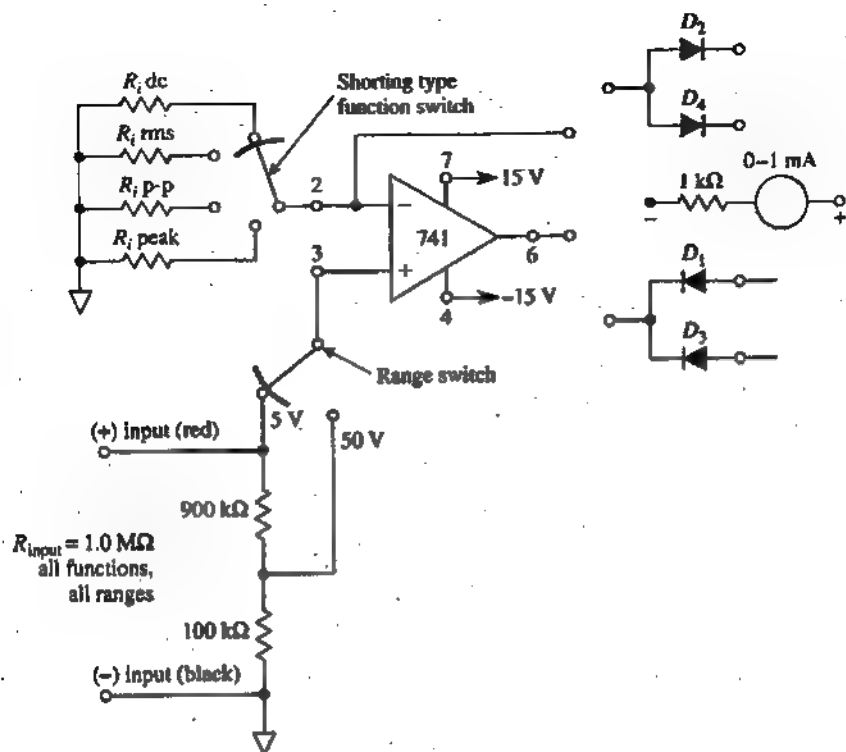

FIGURE PS-3
- 5-3. In Fig. PS-3 complete the schematic wiring between op amp, diodes, and milliammeter. The current through the meter must be steered from right to left.
- 5-4. Calculate a value for R_{idc} in Fig. PS-3 so that the meter reads full scale when $E_i = 5$ V and the range switch is on the 5-V position.
- 5-5. Consider that the range switch is in the 5-V position in Fig. PS-3. Calculate values for the following resistors to give a full-scale meter deflection of 5 V: (a) R_{irms} for $E_i = 5$ V rms; (b) R_i p-p for $E_i = 5$ V p-p; (c) R_i peak for $E_i = 5$ V peak.